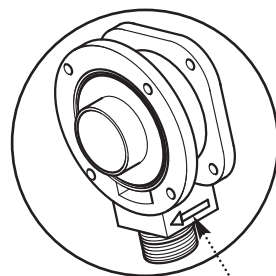

Fig. 64
- Important: When fitting the new venturi, ensure the arrows on its base point into the collector (Fig. 64).